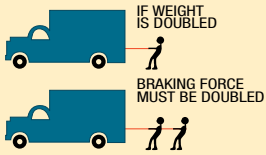

Figure 1
- 3 Weight (GVW).** A heavy vehicle, even though it has better traction, needs more time and distance to stop. When the weight is doubled, the amount of force needed to stop the vehicle is doubled, and it will take about twice as long for that vehicle to stop (Figure 1 - page 42).